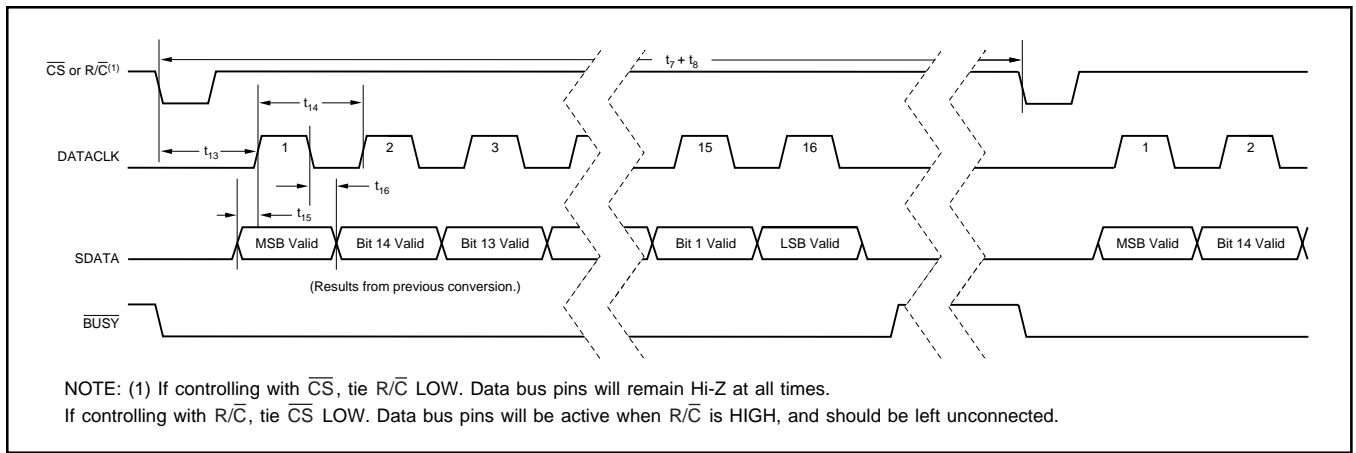

FIGURE 4. Serial Data Timing Using Internal Data Clock (TAG tied LOW).
NOTE: (1) See Figures 4, 5, and 6 for constraints on data valid from conversion 'n - 1'.
To use the internal data clock, tie EXT/INT (pin 8) LOW. The combination of R/C (pin 22) and CS (pin 23) LOW will initiate conversion 'n' and activate the internal data clock (typically 900kHz clock rate). The ADS7807 will output 16 bits of valid data, MSB first, from conversion 'n-1' on SDATA (pin 19), synchronized to 16 clock pulses output on DATACLK (pin 18). The data will be valid on both the rising and falling edges of the internal data clock. The rising edge of BUSY (pin 24) can be used to latch the data. After the 16th clock pulse, DATACLK will remain LOW until the next conversion is initiated, while SDATA will go to whatever logic level was input on TAG (pin 20) during the first clock pulse. Refer to Table V and Figure 4.